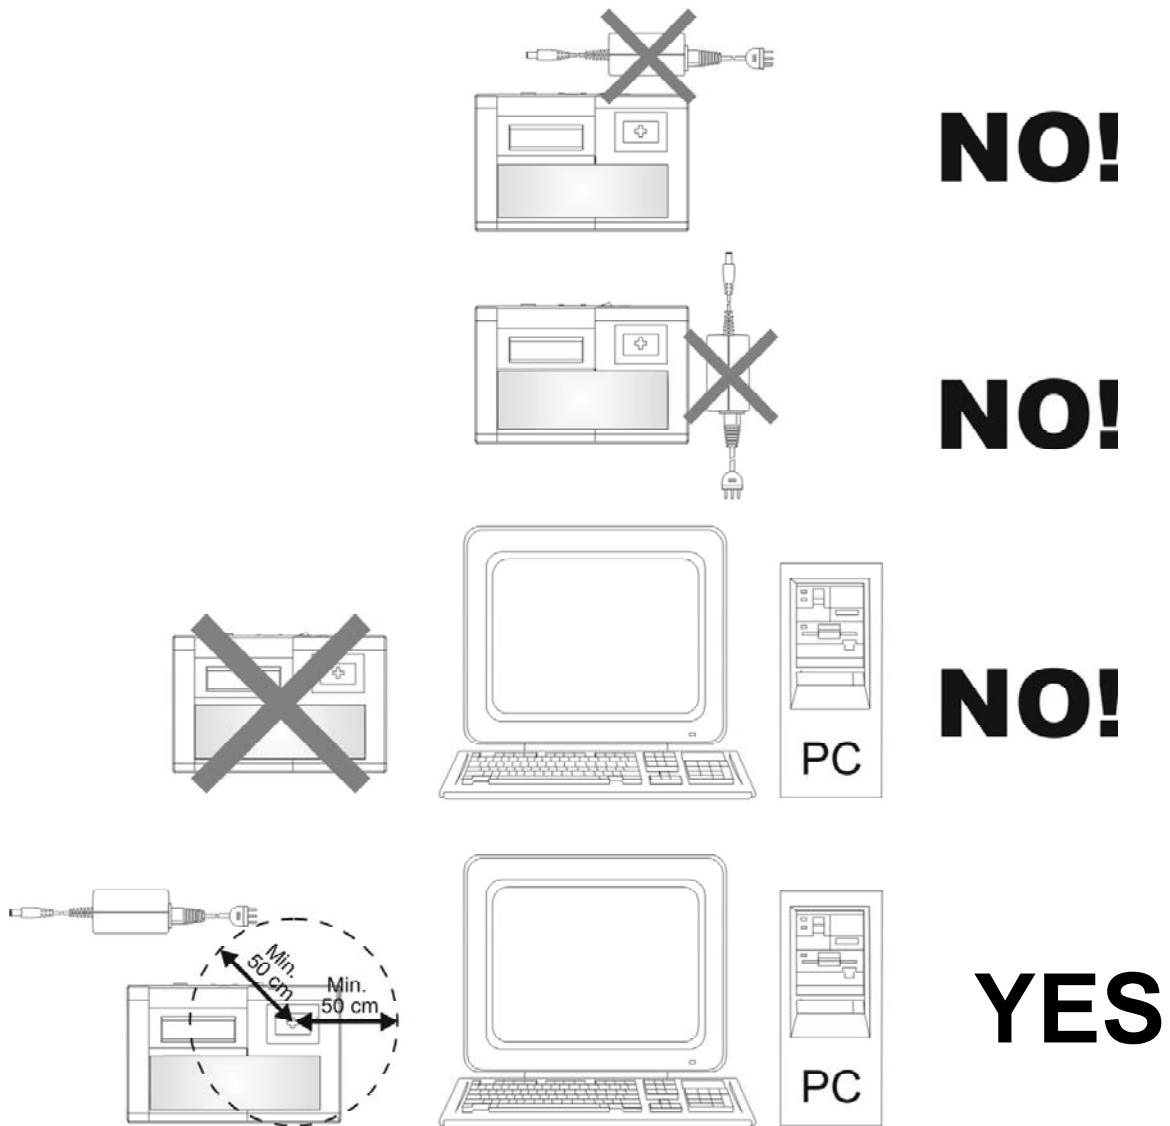

Fig. 5
**ATTENTION: the universal feeder provided with the machine and any electronic equipment should be placed at least 50 cm from the antenna to avoid their generating interference which could affect reading and/or writing of the transponder (see Fig. 5, page 13).**